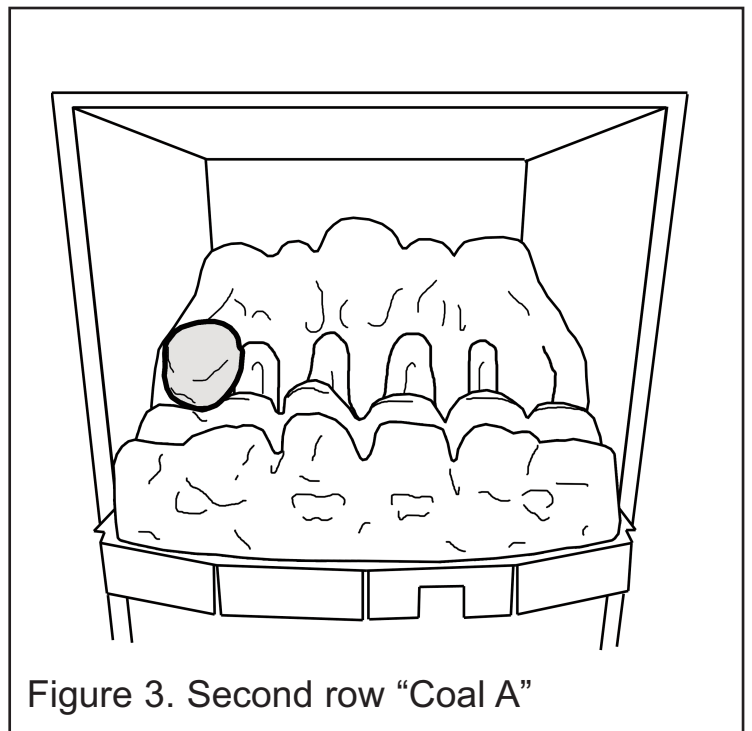

Figure 3. Second row "Coal A"
4. Hold coal 'A' upright with the arrow pointing to the top. Locate coal 'A' as shown in figure 3.